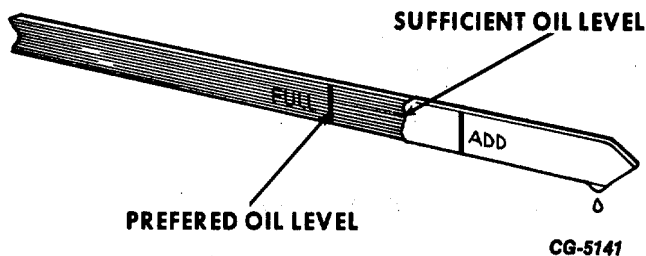

Fig. 2 Proper Oil Level
- (1) Remove oil filter assembly by turning counterclockwise with the hands or a suitable tool. Clean filter mounting pad.
- (2) Coat the gasket on the new filter with a film of grease.
- (3) Place the new filter in position on the center tube. Hand tighten 1/2 to 3/4 of a turn after gasket first contacts base of mounting pad.
- c. Add sufficient oil to bring the oil level between "ADD" and "FULL" marks on oil dipstick (Fig. 2).